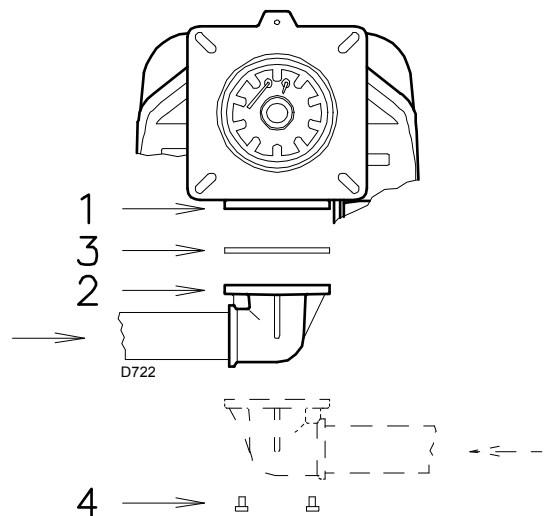

Fig. 18
- The gas train can enter the burner from the right or left side, depending on which is the most convenient, see Fig. 18.
- The gas train must be connected to the gas attachment 1)(Fig. 18) with the flange 2), the gasket 3) and the screws 4) supplied with the burner.